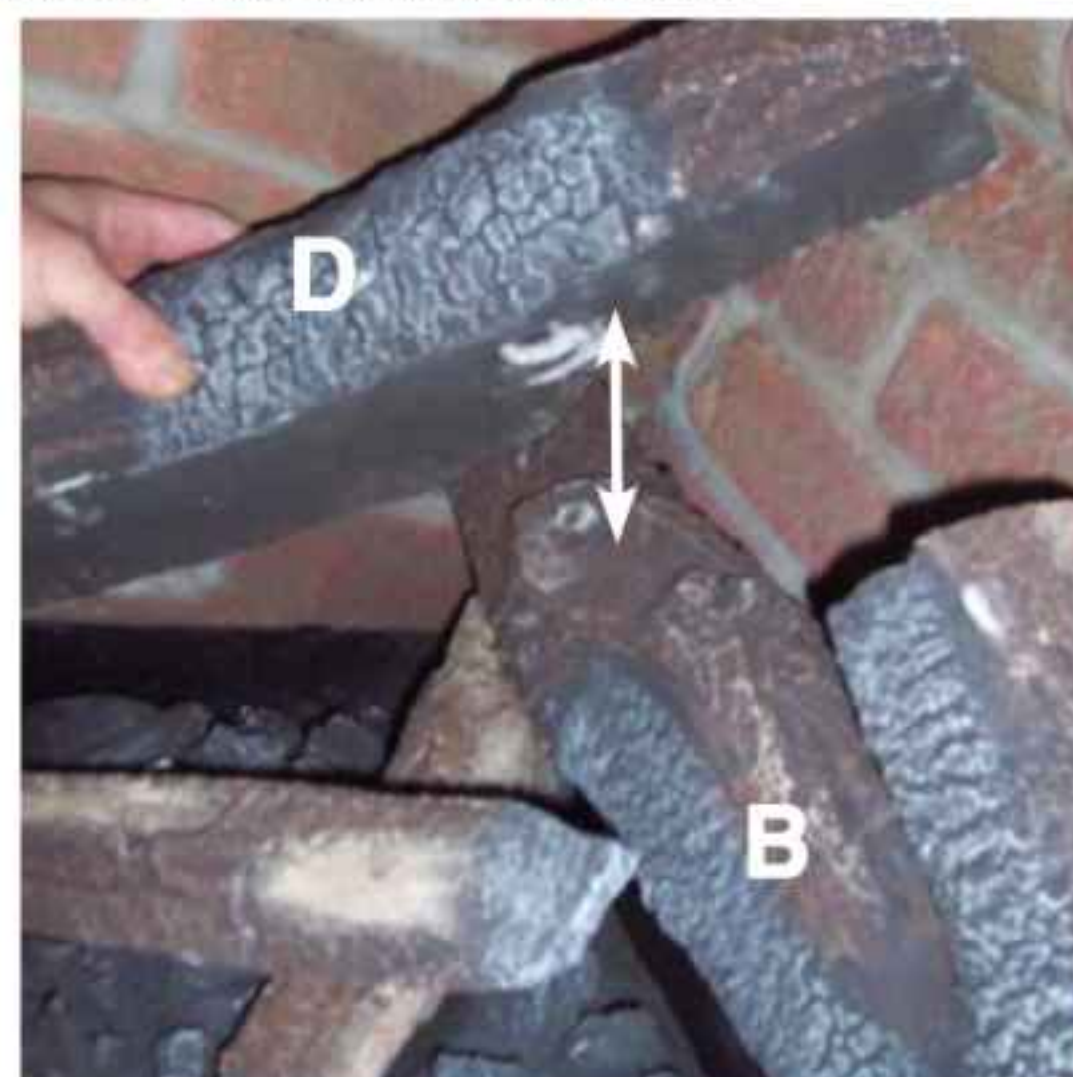

Figure 91: Log D Locator
- 6) Identify locator on Log D and opposing Locator on Log B as shown in Figure 91. Place Log D gently on Log B.